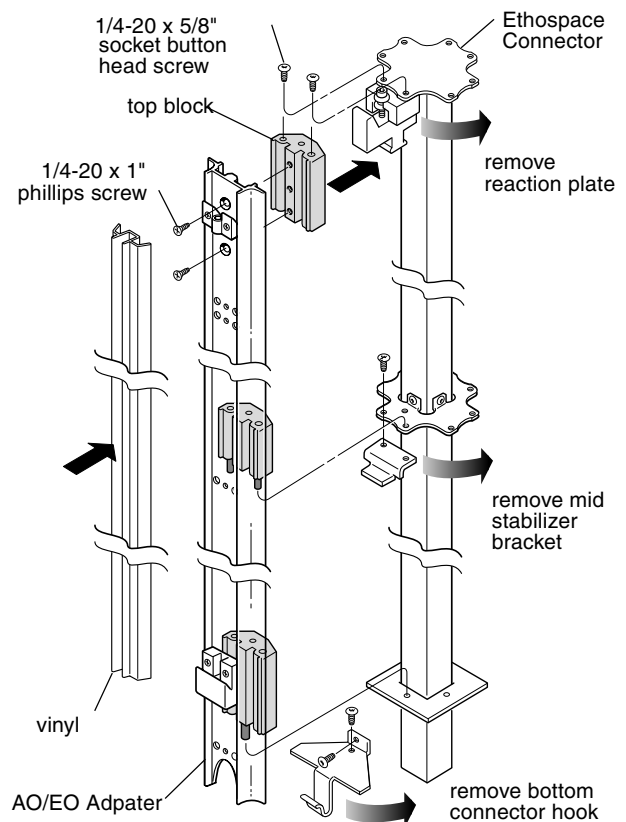

Figure 2
4. From the side of the EO Connector that the AO/EO Adapter and Series 1 or 2 panel will attach, remove the reaction plate, mid stabilizer bracket and bottom connector hook. (Figure 2)